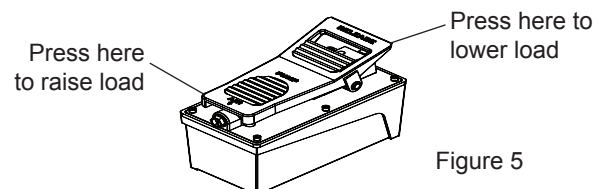

Figure 5
5. When ready to remove engine, press horizontal portion of pump pedal until load is high enough to clear vehicle (see Fig. 5).